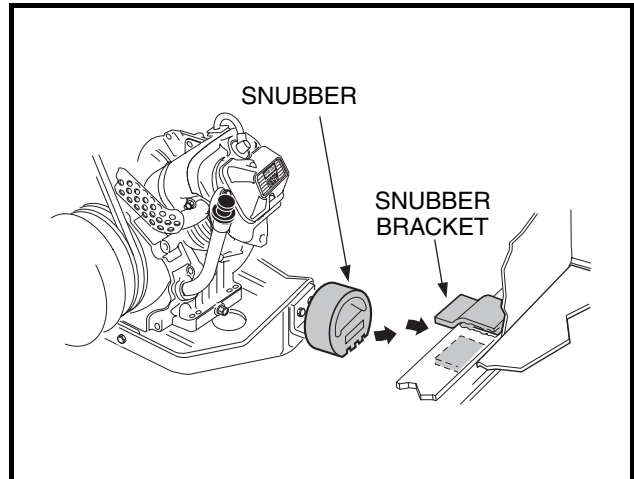

Figure 16-39 Snubber
12. Remove the blocks from under the engine and roll the powertrain into position under the vehicle. Then lift the front of the powertrain and place the snubber into the snubber bracket in the vehicle frame (Figure 16-39, Page 16-17).